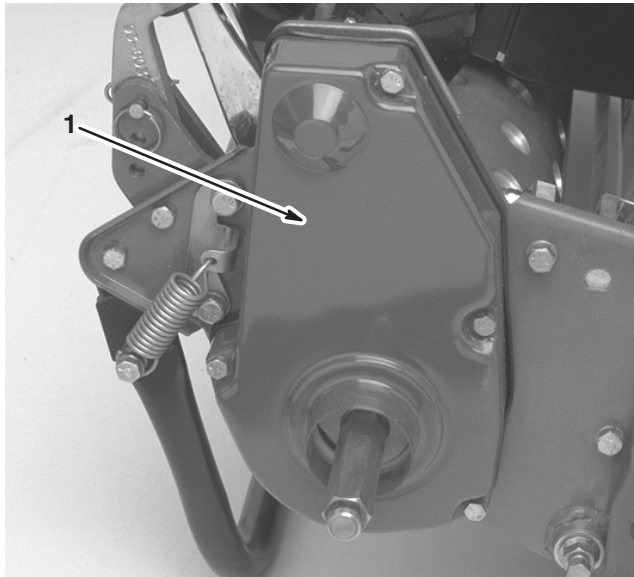

Figure 8
6. Remove the rear belt cover from the right side of the machine (Fig. 8).